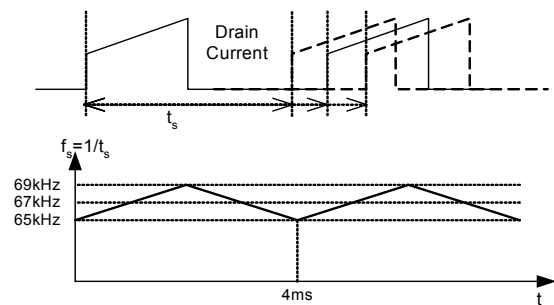

Figure 10. Frequency Modulation Waveform
**7. Frequency Modulation :** Modulating the switching frequency of a switched power supply can reduce EMI. Frequency modulation can reduce EMI by spreading the energy over a wider frequency range than the bandwidth measured by the EMI test equipment. The amount of EMI reduction is directly related to the depth of the reference frequency. As can be seen in Figure 10, the frequency changes from 65KHz to 69KHz in 4ms for the FSDM0265RN (97KHz to 103KHz for FSDH0265RN). Frequency modulation allows the use of a cost effective inductor instead of an AC input mode choke to satisfy the requirements of world wide EMI limits.